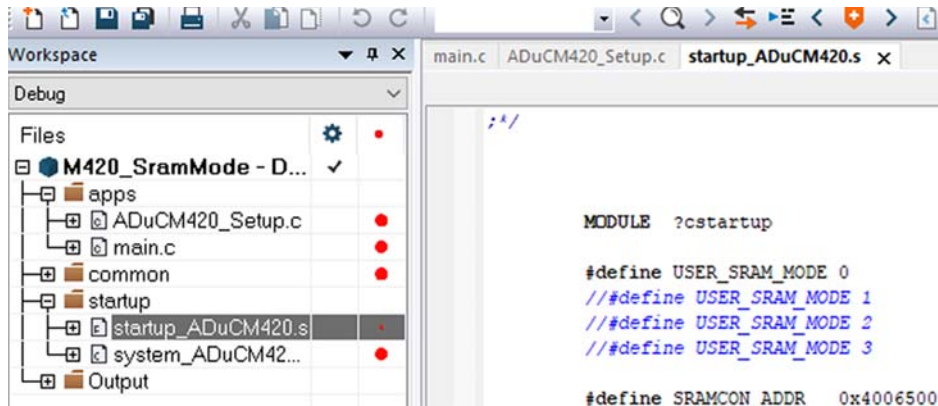

Figure 31. IAR SRAM Setup **startup\_ADuCM420.s** SRAM Modes
1. After the example program is opened from the IAR IDE, ensure that the macros shown in Figure 30 are set up and commented in to select the SRAM mode the linker file is operating in. The **M420\_SramMode** example code (see Figure 31) uses a linker file, the **ADuCM420flash\_SramMode.icf** file (see Figure 32) placed in the **IAR** folder within the **SramMode** example program.
2. Configure the macros shown in Figure 30, Figure 31, and Figure 32 to run the SRAM modes. Ensure the **main.c**, **startup\_ADuCM420.s**, and **ADuCM420flash\_SramMode.icf** macros are selected with the correct SRAM mode.
3. Users can select the desired **USER\_SRAM\_MODE** macro as shown in Figure 31 and Figure 32. Users can also select the **TEST\_SRAM\_MODE** macro as shown in Figure 30. By default, the example program is running in **TEST\_SRAM\_MODE 0**. Ensure the **main.c** macro, which runs the debug mode, shows that the instruction SRAM (ISRAM) is placed in debug mode. If the ISRAM is in debug mode, the **Disassembly** window from the **View** menu bar displays the **isramTestFunc** with the 0x10000000 address (see Figure 33).